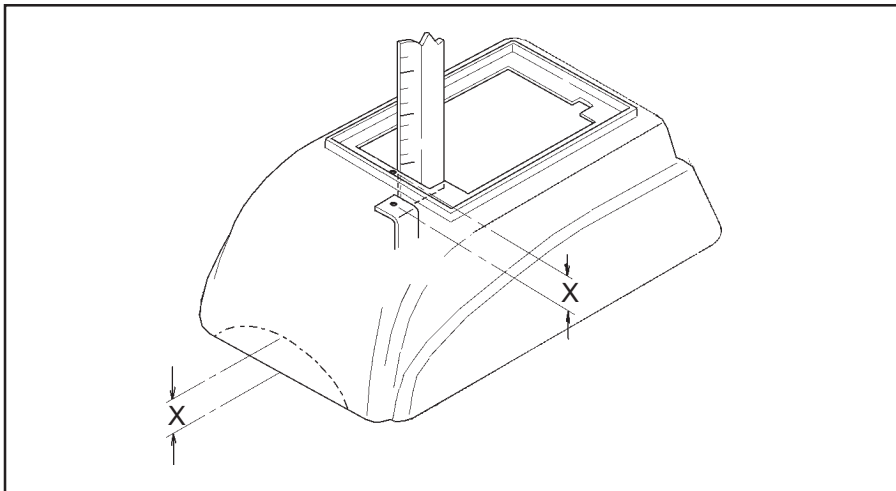

Figure 10
STEP 27. Place tower over shifter mechanism until the bottom edge of the tower touches the floor. Hold the tower level to the shifter with the bottom of the tower touching the highest surface on the floor it will come into contact with, (See **figure 10**). Use a ruler to measure the distance X from the underside of the tower to the tower mounting brackets on the shifter mechanism.
STEP 28. Set a pair of dividers at the distance X, measured in **step 27**. Hold the tower level to the shifter mechanism with the bottom of the tower touching the highest surface on the floor it will come into contact with. Holding the tower in position, place one leg of the divider against the floor while the other touches the tower, (See **figure 10**). Using the dividers, scribe a line around the tower that follows the contour of the floorboard. Remove the tower and trim at the scribe line using a keyhole saw or a saber saw. (The material is too thick to cut easily with tin snips.) Once tower is properly trimmed, install the tower putting the shifter top plate and indicator cable through the opening in the top of the tower. The indicator cable